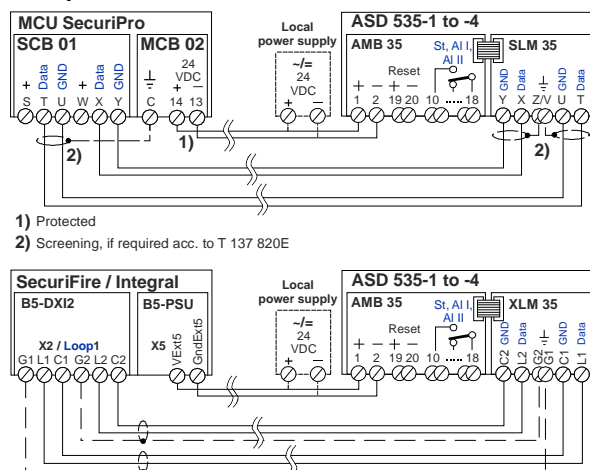

Fig. 42 Wiring from XLM 35 / ML-SFD / SLM 35
① country-specific regulations and guidelines must be observed
- The circuitry and wiring routing between **SLM 35** and the FACP SecuriPro, SecuriFire or Integral must be carried out as shown in **Fig. 42** (X on X, Y on Y or X on L2, Y on C2, etc.).
- The circuitry and wiring routing between **XLM 35 / ML-SFD** and the FACP SecuriFire or Integral must be carried out as shown in **Fig. 42** (L1 on L1, C1 on C1, etc.).